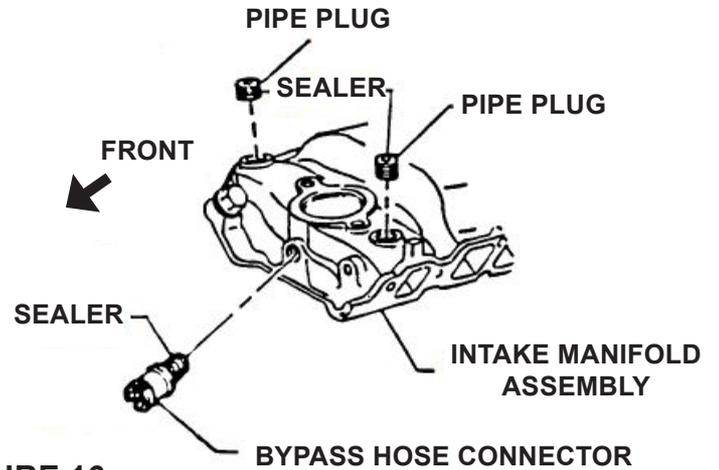

FIGURE 16
2. Use thread sealer on all threads that go into coolant, oil, or port passages. See Figure 16.